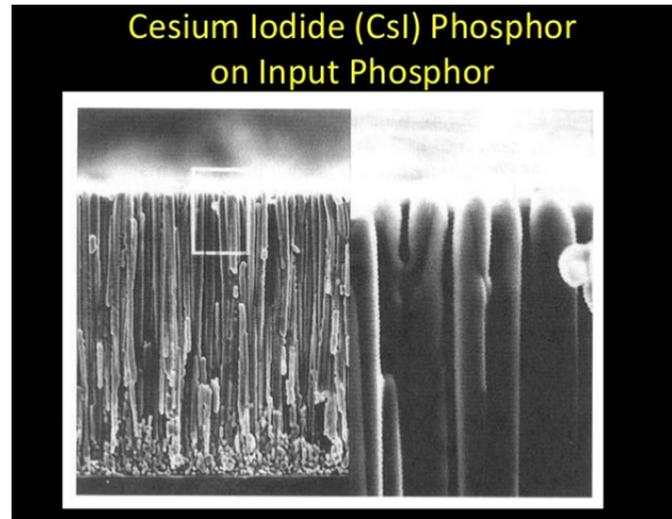

Figure 4 CsI pillars
4.1 As told before, the X-ray detector uses a sensor plate to make the image. Within Philips IGT all detectors use CsI (Cesium Iodide) 4.2. scintillators to convert X-rays to visible light. CsI crystals are grown on an aluminum substrate to get a "pillar" like structure (Figure 4). Due to this structure the light that is generated from the X-rays is reflected inside the pillars. CsI is a kind of "kitchen salt" and needs protection from moisture. The aluminum layer acts as reflector for light going in the wrong direction, so it increases the sensitivity and also blocks the moisture from reaching the CsI crystals. This results in a relative sharp image (high MTF). Within Philips, DXR some detectors use GOS (Gadolinium Oxi Sulphide) or CaWO (Calcium Wolfram Oxide) scintillators. These are powders that are cheaper to make but result in a less sharp image (lower MTF) because the light gets more scattered when reflecting on the powder.